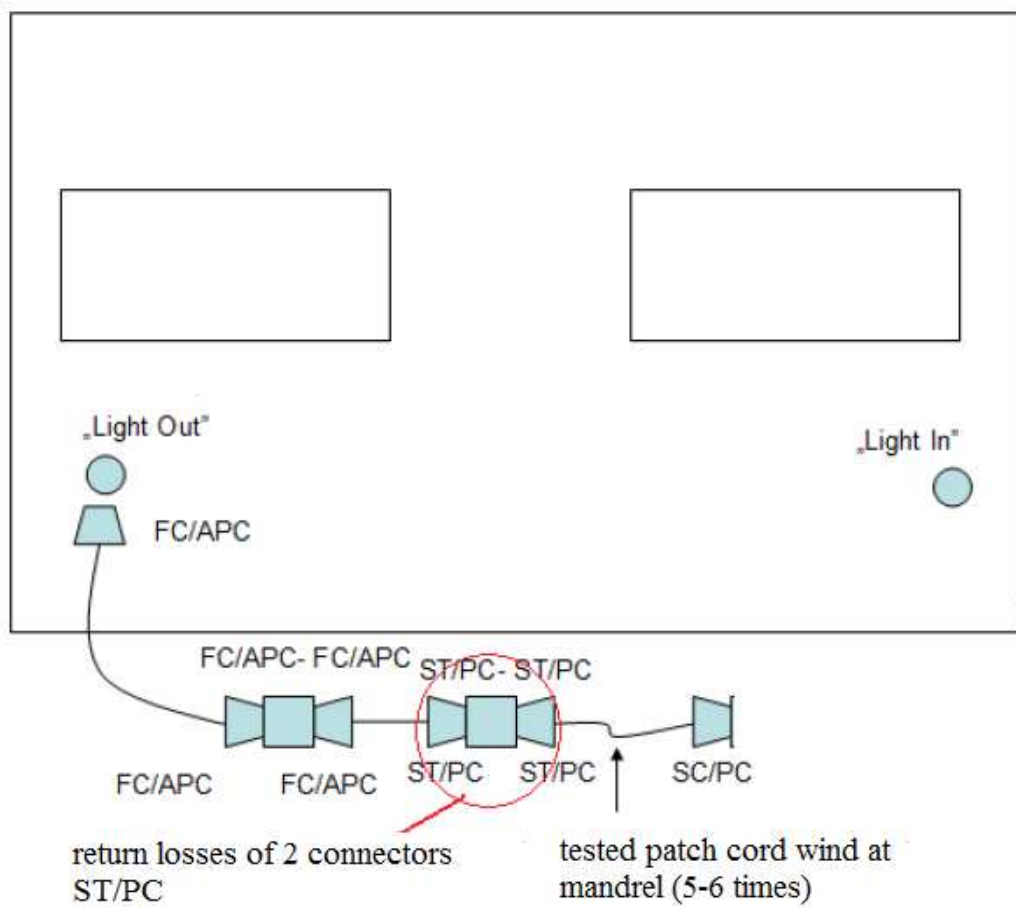

Fig. 4 RL measurement of patch cord ST/PC-ST/PC.
- 12. Connect tested fibers according to Figure 4.